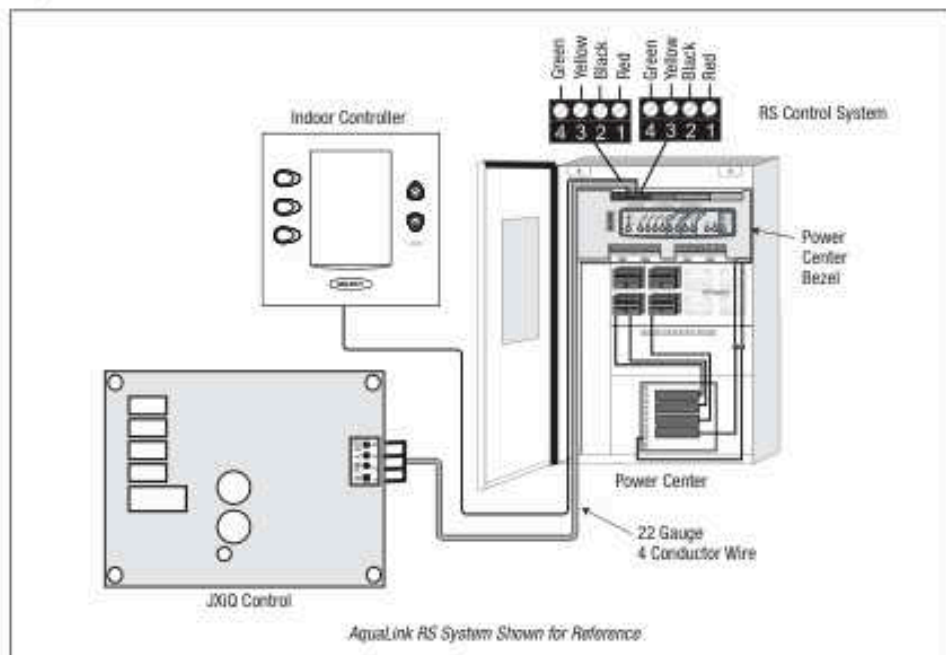

Figure 22. Wiring the JXIQ to a Jandy Remote
- Use 22 gauge 4-conductor wire to run between the heater and the control system and match the wire color order. See Figure 22.